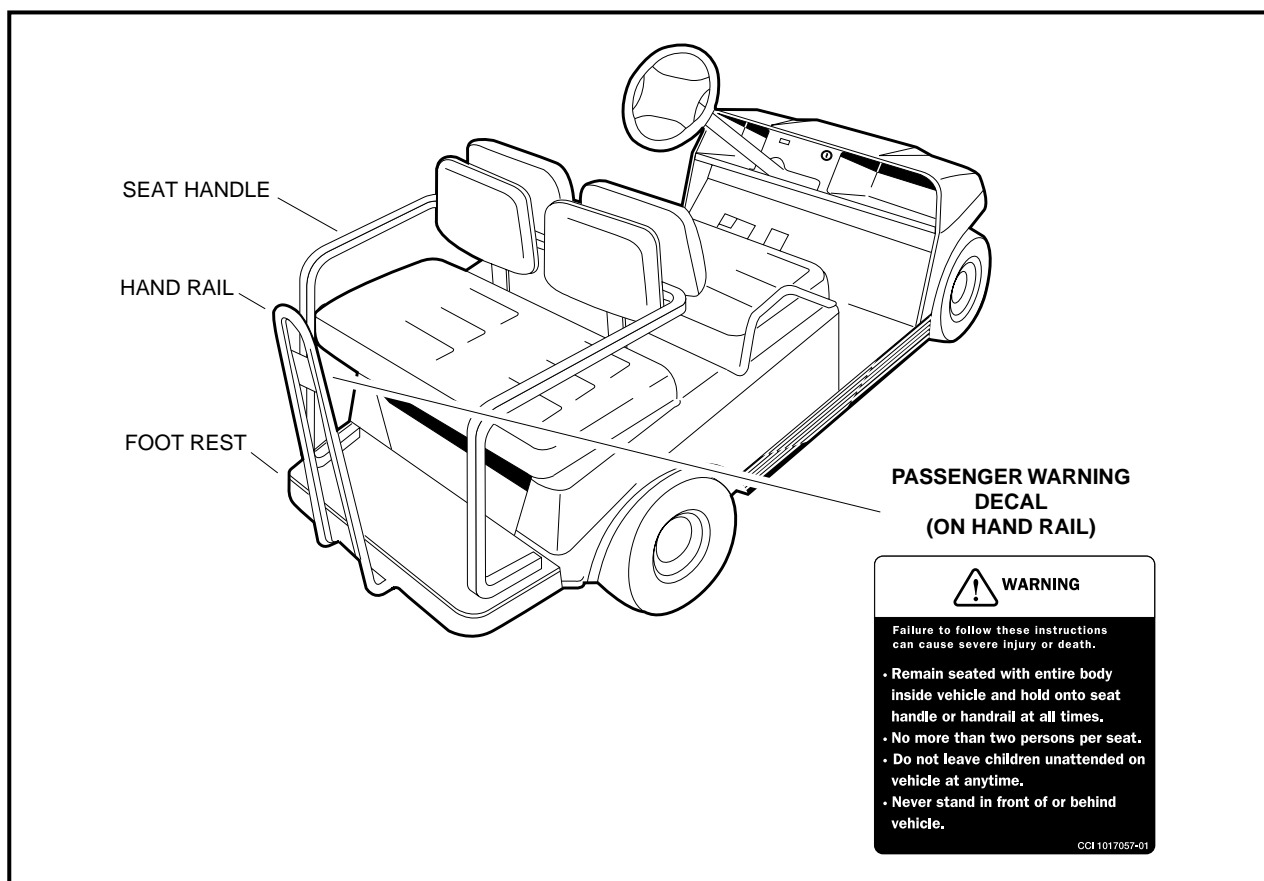

Figure 19 Fairway Villager
- PASSENGERS SHOULD HOLD ON TO SEAT HANDLES OR HAND RAILS AT ALL TIMES (**FIGURE 19, PAGE 34**). DRIVER SHOULD KEEP BOTH HANDS ON THE STEERING WHEEL WHILE VEHICLE IS MOVING.